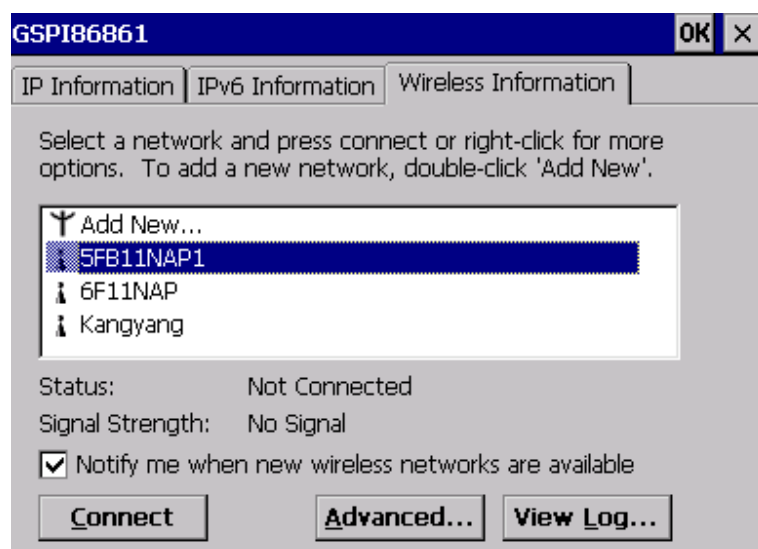

Figure 4-13: Wireless AP
Step 1: When turn on the power, Wireless AP start to search wireless base stations around as shown below. (Figure 4-13).